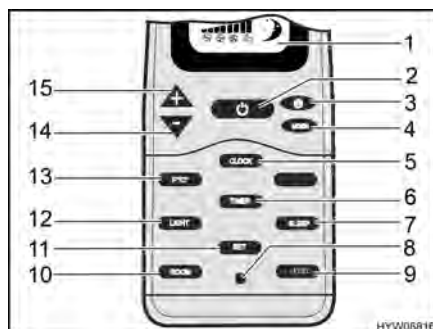
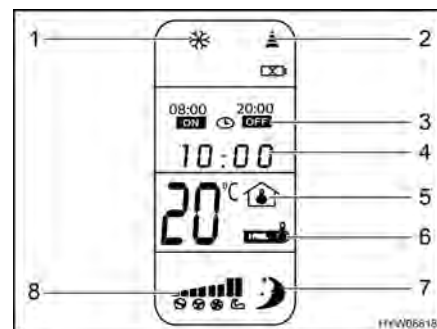

Fig. 80 Remote control (air conditioning unit)
Fig. 81 Digital display (remote control)
- When the air conditioning unit is in stand-by mode: Press the On/Off button (Fig. 80,2) on the remote control.
- Press the On/Off button (Fig. 80,2) on the remote control. Air conditioning unit changes to stand-by mode.
■ Press the send button (Fig. 80,11) on the remote control. The settings are sent collectively to the air conditioning unit and this is confirmed with a signal tone.
Setting the time: ■ Press the time button (Fig. 80,5) until the time display (Fig. 81,4) flashes.
■ Use the "+" (Fig. 80,15) and "-" (Fig. 80,14) buttons to set the desired time.